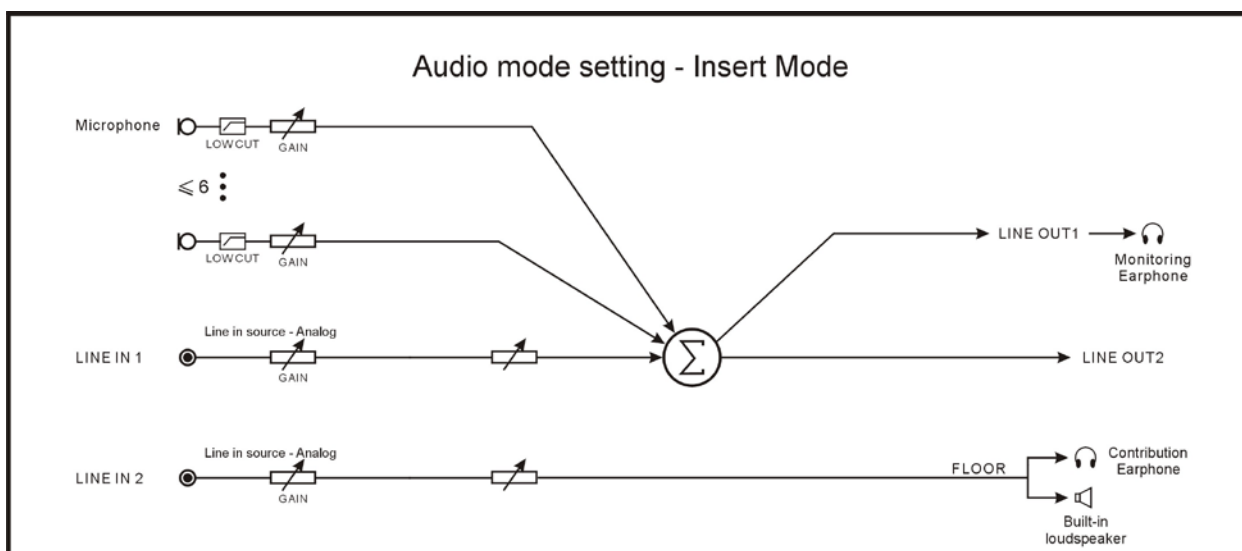

Figure 2.7 Audio mode setting – Insert Mode
- **Insert Mode:** LineOut1 and LineOut2 output floor audio (mix output of LineIn1 input signal and active microphone signal); monitoring earphone output the audio signal of LineOut1, loudspeaker and conference unit earphone output input signal of LineIn2 (LineOut1 signal processed by external audio equipment and feedback to LineIn2 input), as shown in figure 2.7.